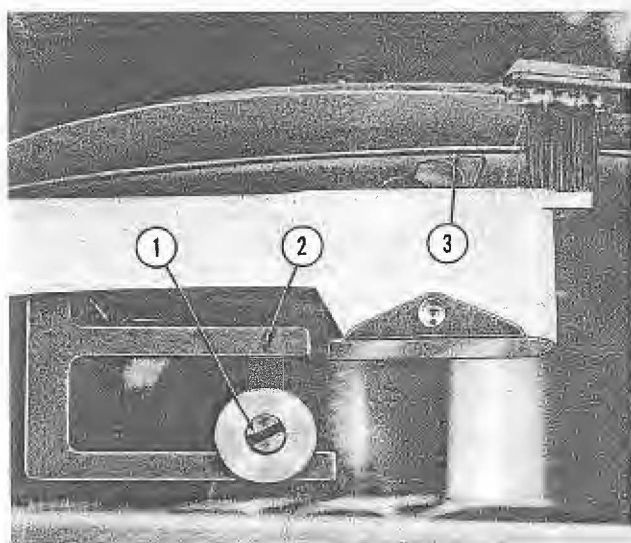

Fig. 77. TONE ARM FEED-IN ADJUSTMENT
(1) The tone arm feed in adjusting screw (Fig. 77, Item 1) is set at the factory using fixture X42226 (Item 3) and should need no adjustment. However, when a readjustment is required it may be accomplished by advancing the record changer in its cycle until a record is clamped on the turntable. Turn the service switch off before the needle contacts the record and adjust the feed in screw (Item 1) to position the needle in the feed-in groove of the record. The setting should be 2-5/8" to 2-11/16", measured from the outside circumference of the turntable pilot to the needle, to conform with R.L.A.A. standards.